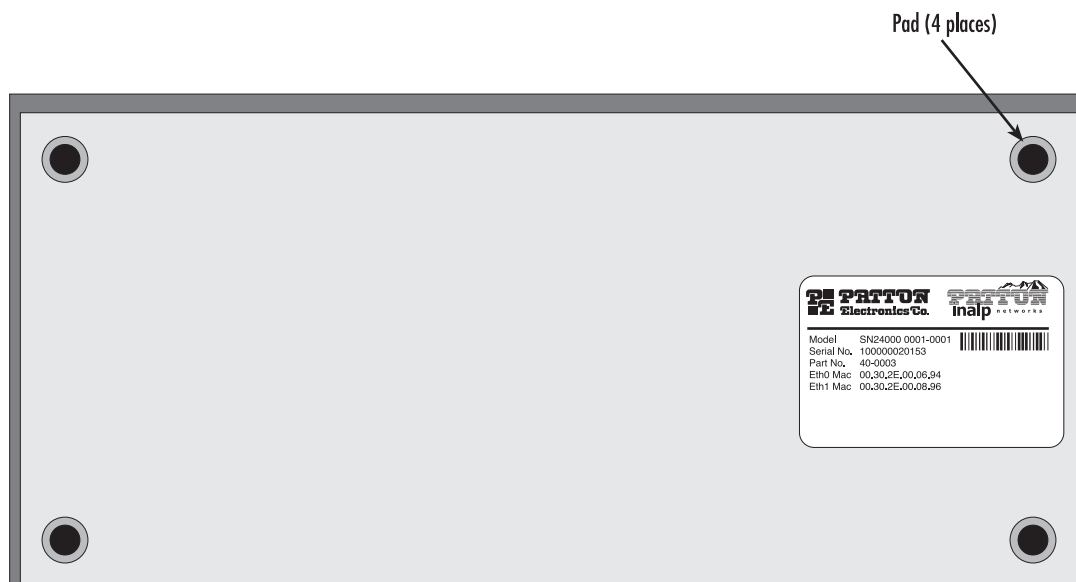

Figure 69. Pad locations
1. Remove one of the rubber pads from the adhesive strip (included in the SmartNode installation kit pack) and place it on a corner on the bottom of the SmartNode 2400 (see figure 69).